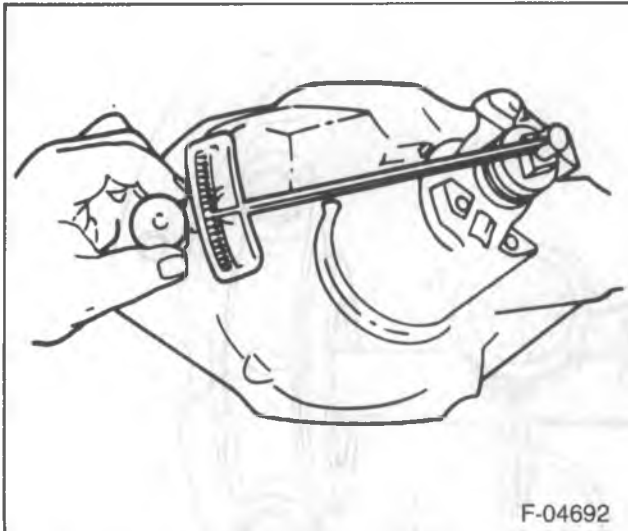

Figure 16—Checking Pinion Bearing Preload
- Remove J 8614-01. Using an inch-pound torque wrench, check the pinion preload by rotating the pinion with the wrench. Preload should be at or below 2.3 to 2.8 N·m (20 to 25 in. lbs.) on new bearings, or 1.1 to 1.7 N·m (10 to 15 in. lbs.) for used bearings (figure 16).